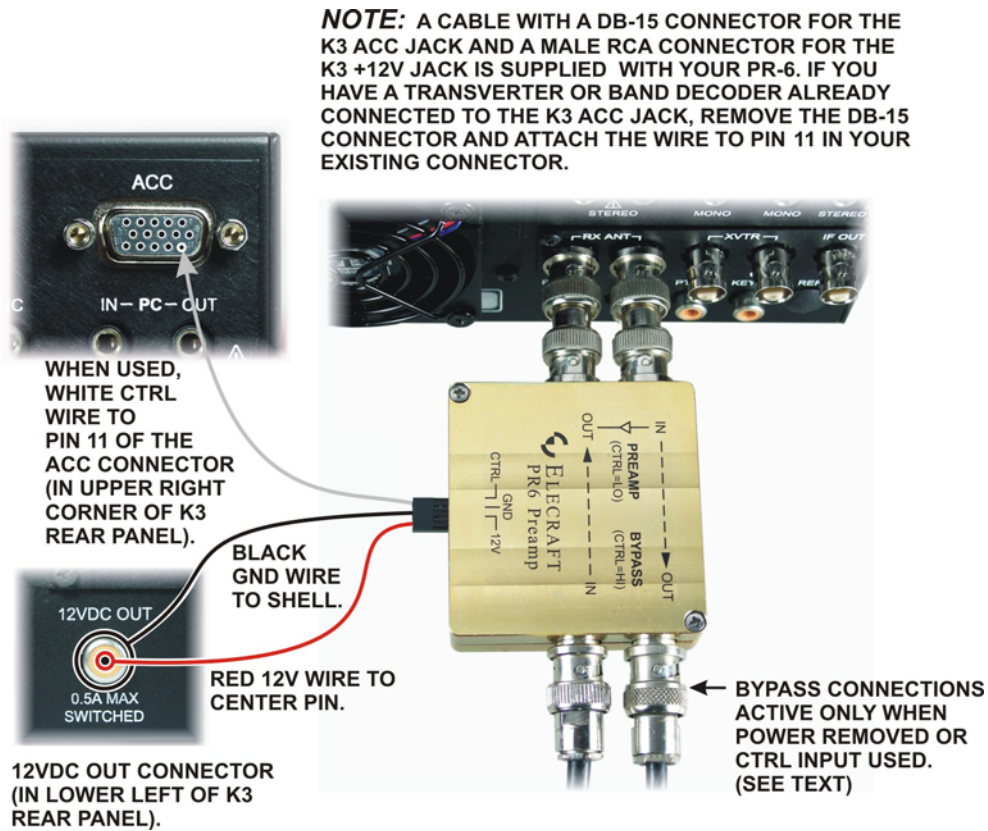

Figure 2. PR6 Mounted on Elecraft K3.
The BNC connector spacing matches the rear-panel RX ANT connectors so the PR6 may be attached to the K3 using the supplied male-male BNC connectors as shown in Figure 2. A prewired cable is supplied that connects to the K3 as follows:
- The Control (CTRL) input is optional (see below) when the DB-15 connector is attached to the ACC connector on the K3. The white CTRL wire is connected to the DIGOUT1 signal at pin 11 of the ACC jack on the K3 rear panel through the DB-15 connector (See Figure 2). If you already have a cable connected to the K3 ACC port for a transverter or band decoder, remove the DB-15 from the cable and add the wire to pin 11 of the existing connector.